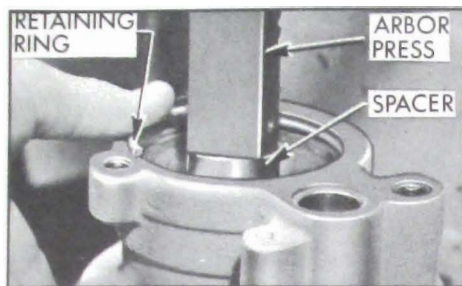
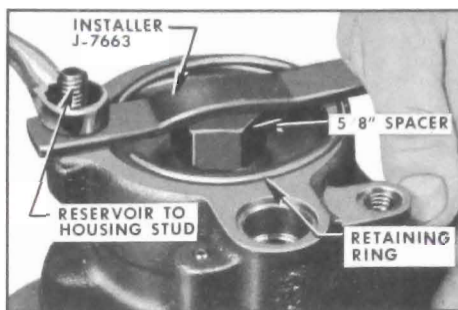

Figure 8-77—Installing End Plate Using Arbor Press
Figure 8-78—Installing End Plate Using J-7663
with arbor press as shown in Figure 8-77 or using Installer J-7663 as follows. Place retaining ring on top of end plate and position installer J-7663 so that depression of installer is against center of end plate. See Figure 8-78. Attach installer to housing (not slotted end) using the reservoir to housing stud with long end of stud threading into
12. Install retaining ring, being sure that ring is completely seated in housing groove and end plate is aligned properly. See Figure 8-78.